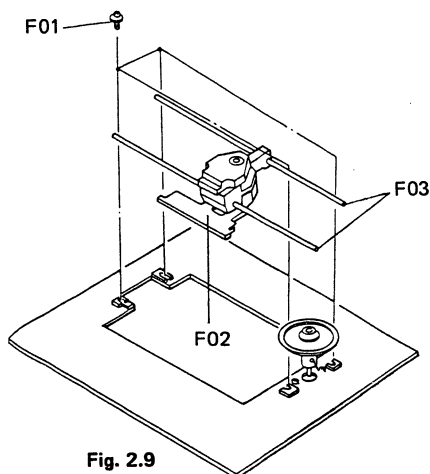

Fig. 2.9
- (1) Refer to Fig. 2.9.
- (2) Remove the Disc Tray Ass'y referred to in item 2.6.
- (3) Remove the three connectors (CN-101, CN-102 and CN-103) from the Servo P.C.B. Ass'y.
- (4) Remove F01, then F02 (Laser Pickup Ass'y) along with F03 (Pickup Guide Rail).